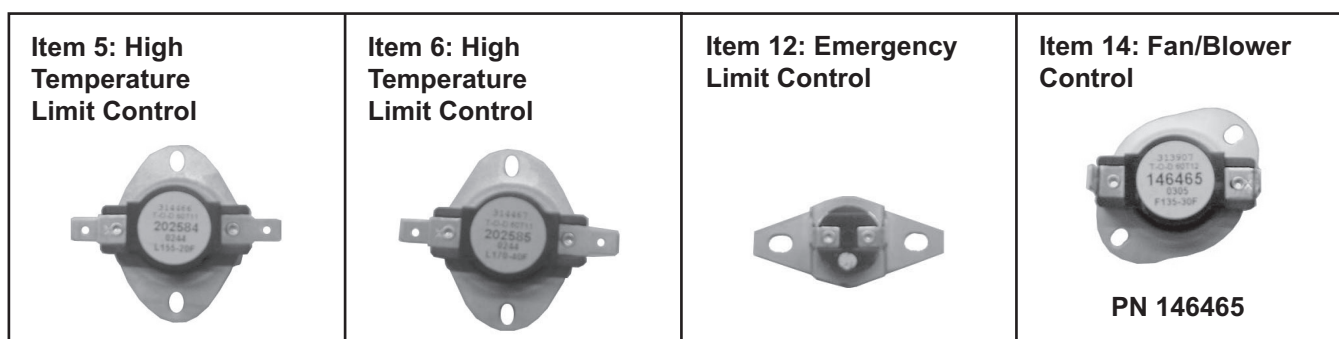

Figure 9. Individual Limit and Fan/Blower Controls (Refer to Table 11)
- Individual components are shown in Figure 9.